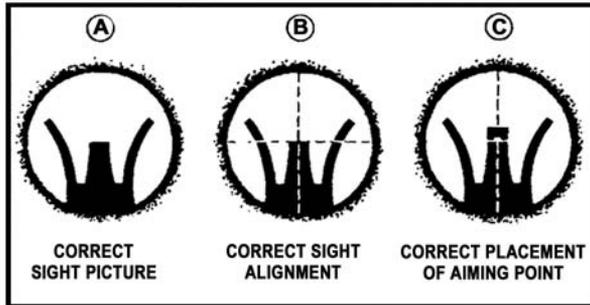

Figure 071-311-2004-3. Sight pictures
- (1) Depress the detent.
- (2) Rotate the drum all the way to the left.
- (3) Rotate the drum 17 clicks to the right.
- a. Align the sights (figure 071-311-2004-3).
- (1) Center the top of the front sight post in the center of the rear sight (A in figure 071-311-2004-3).
- (2) Draw an imaginary horizontal line through the center of the rear aperture so that the top of the front sight post touches the line (B in figure 071-311-2004-3).